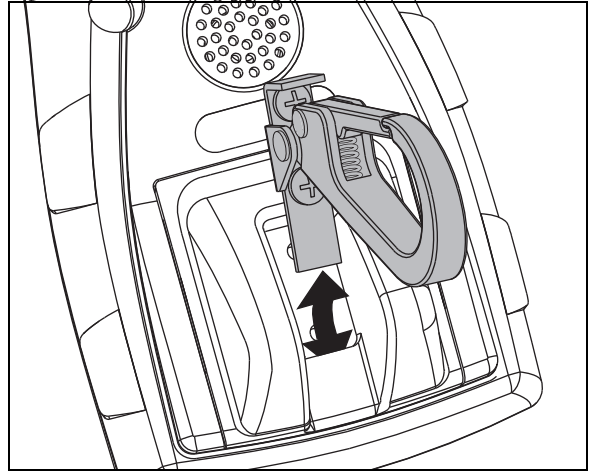

Figure 7. How to Remove and Install the Belt Clip
Refer to Figure 7.
- 3 Put the end of the plate into the slot as shown in Figure 7 before you align the screws with the holes in the test set.